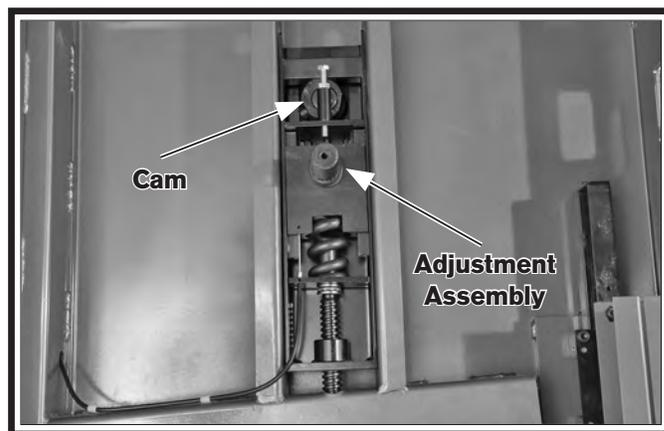

Figure 85. Lubrication locations for tension adjustment assembly (upper wheel removed for clarity).
3. Use a rag and mineral spirits to wipe off any grease and sawdust build-up on blade tension adjustment assembly and tension lever cam (see Figure 85), then apply thin coat of lubricant to these areas.